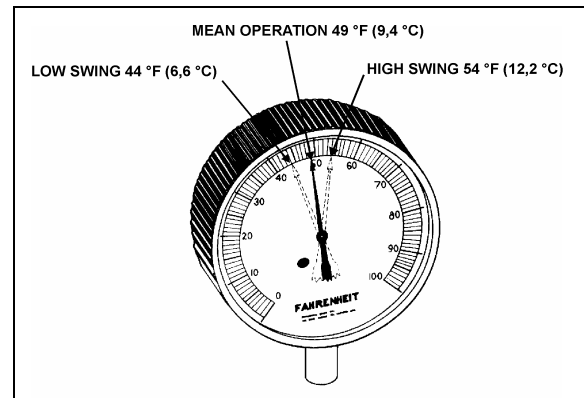

FIGURE 40: HIGH & LOW SWING TEMPERATURE AT REMOTE BULB 22047
6. Check approximately 5 readings of pressure at 2-minute intervals and convert to temperature using the vapor-pressure table (page 36). Likewise check the temperature reading at the remote bulb at the same 2-minute intervals and record the low and high swing readings of the needle (refer to Figure 40).
Example of readings taken at Figure 40: